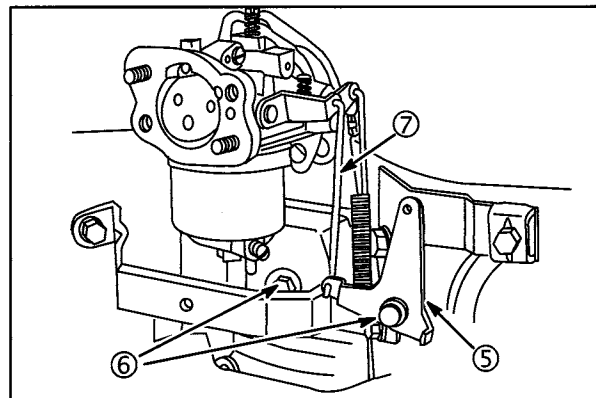
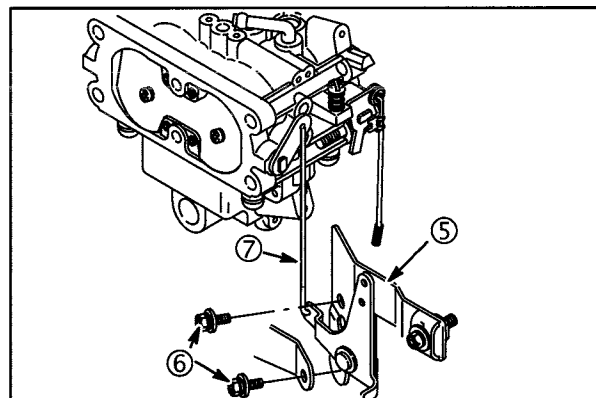

Fig. 27
Fig. 28
3. Connect choke link (7) to choke lever and install choke control bracket (5), single barrel carburetor, **Fig. 27**, two barrel carburetor, **Fig. 28**. Torque screws (6) to 65 in. lbs. (7 Nm).